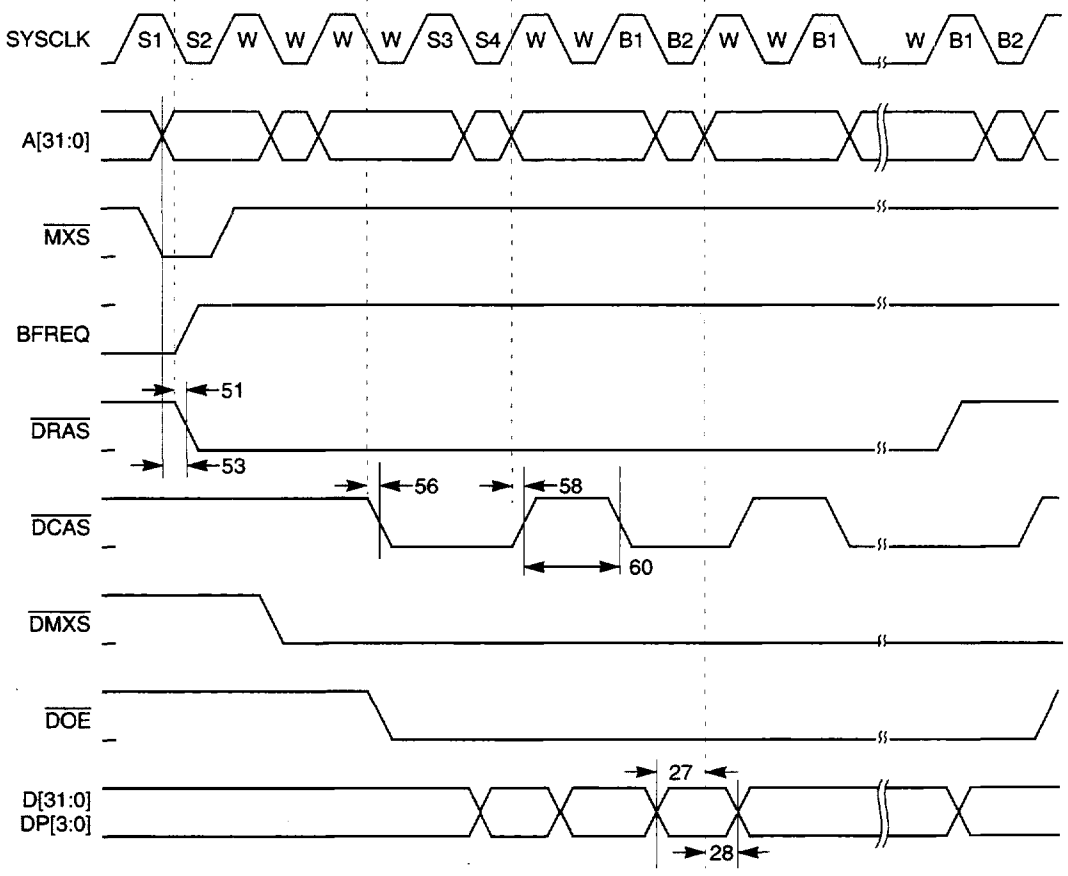

Figure 12
- ◆ DRAM Page-Mode Write Timing (Figure 12)